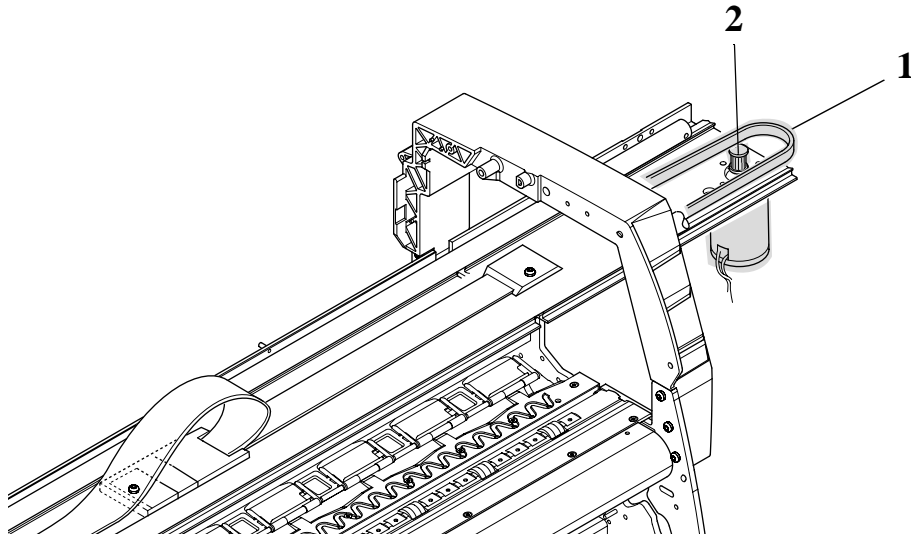

Figure 34: Tensioner Assembly
3. Remove the belt (item 1) from the belt motor pulley (item 2) on the right hand side of the Printer (refer to Figure 34)